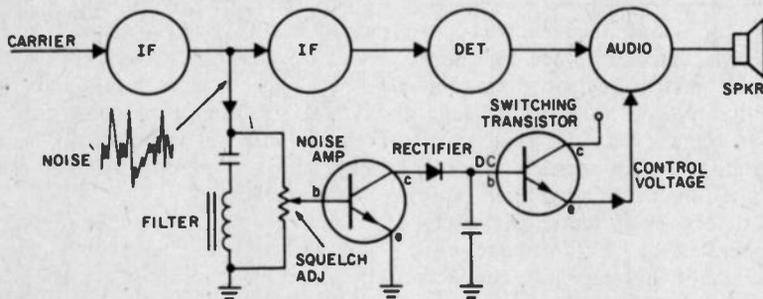

Fig. 4. Most sophisticated squelch: noise-operated rather than carrier derived. Filter separates white noise from other noise to develop squelch volts.
**Noise Is Nice?** One of the deluxe squelches is the "noise-operated" type. Circuits described earlier are carrier-derived, but a noise-derived system is more sophisticated. As shown in Fig. 4, the action begins by tapping a sampling of signal from one of the IF stages in the receiver. Assume at this time that